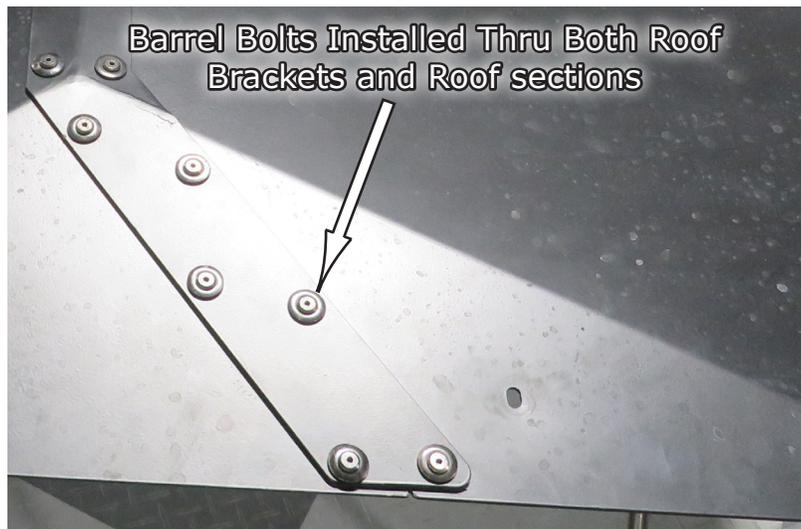
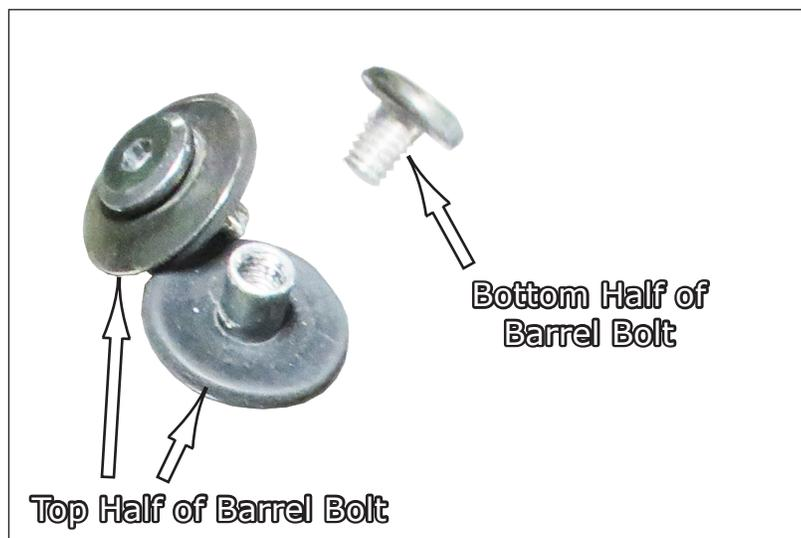

Fig.3a
Fig.3b
5. Then assemble the roof together by using the Barrel Bolts provided in your kit (item A). **Fig.3a** shows the roof sections with the brackets and barrel bolts installed.
6. Place the larger half of the Barrel Bolt (the one with the large cup washer in **Fig.3b**) on the outside or top side of the roof, thru the hole, then install the other half (or screw also **Fig.3b**) into it. Snug but don't tighten down until all 26 bolts are installed into both sections. **Fig.3a** also shows the bolts installed looking from the "Top side" of the roof as finished.